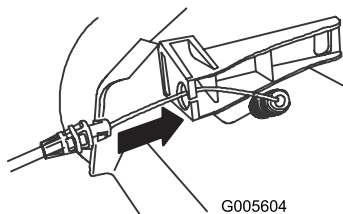

Figure 6
4. Insert the cable into the cable anchor on the left handle bracket (Figure 6).